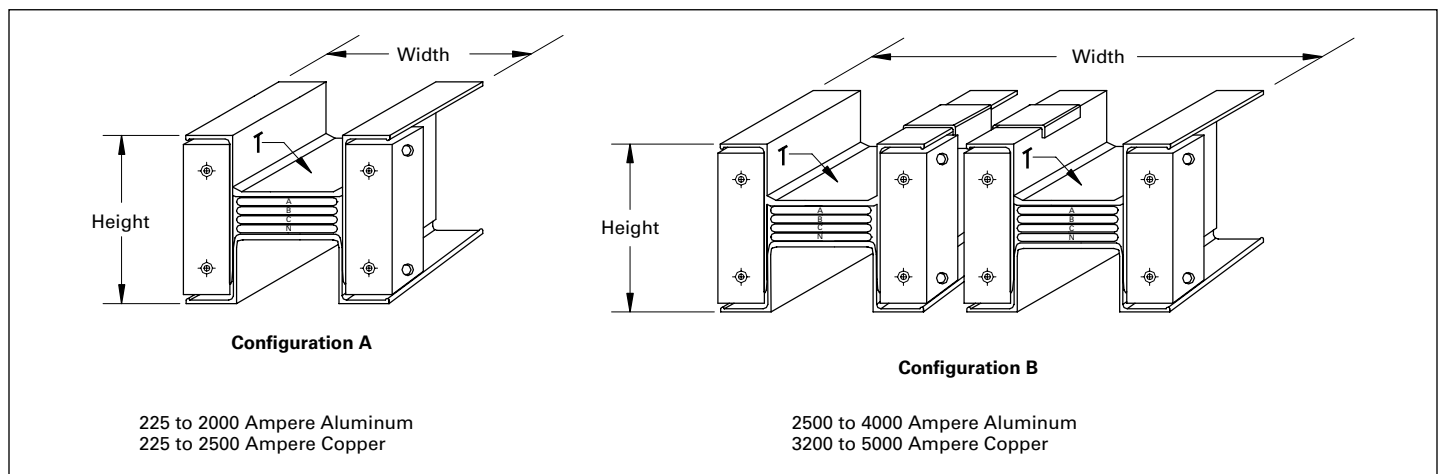

Figure 24.1-79. Pow-R-Way III Cross-Section Dimensions
① 100% ground available with same dimensions that use 50% internal ground and 50% internal housing ground.
② Refer to Figure 24.1-79 on Page 24.1-51 for configuration A and B.
③ 100% ground available with same dimensions that use 50% internal ground and 50% internal housing ground.
④ Refer to Figure 24.1-79 on Page 24.1-51 for configuration A and B.
① Neutral bar is 0.5 (12.7) x Width shown.
② 100% ground available with same dimensions that use 50% internal ground and 50% integral housing ground.
③ Refer to **Figure 24.1-79** for Configuration A and B.